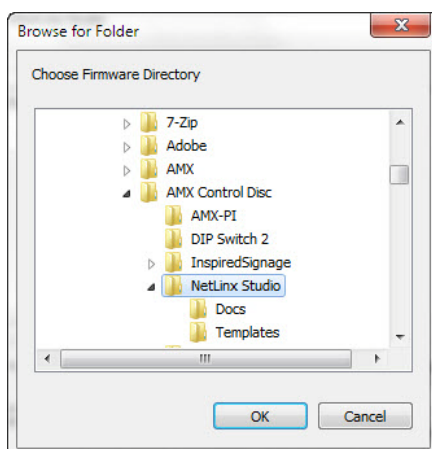

FIG. 31 Browse for Folder window
4. Select the appropriate Kit file from within the *Browse for Folder* window (FIG. 31).